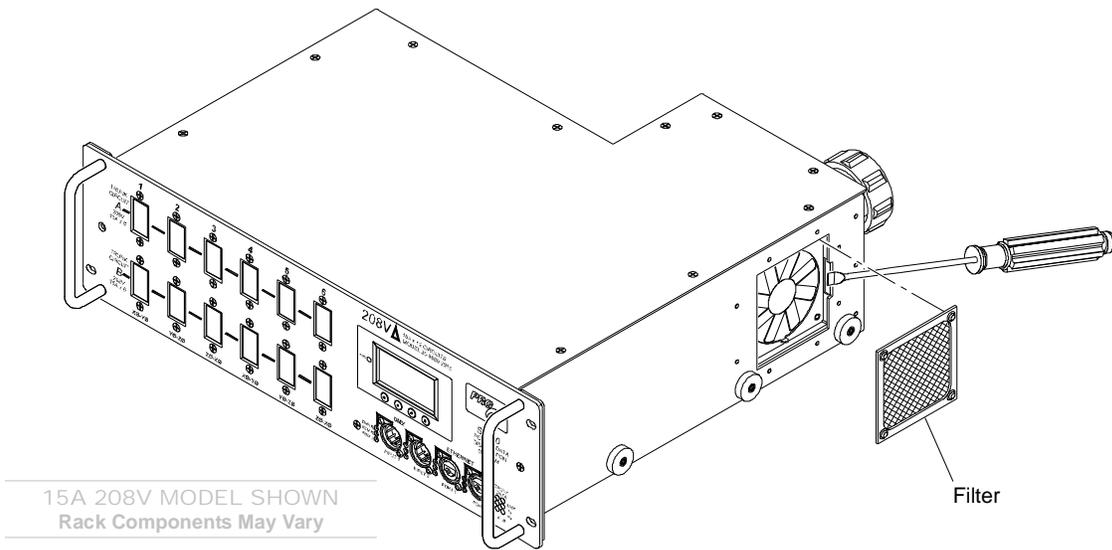

Figure 4-3: Removing Breaker Module Air Filter
- Step 3. Using screwdriver, remove filter as shown in **Figure 4-3**.